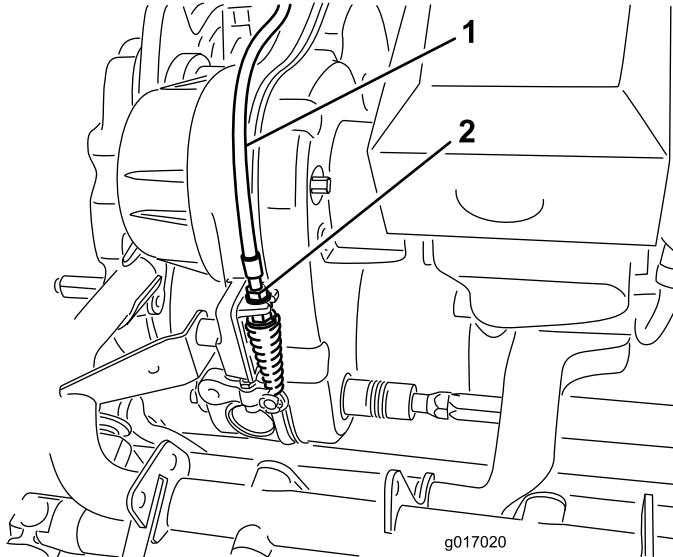

Figure 47
2. At the transmission bulkhead, adjust the reel control cable (Figure 47), to attain a spring length of 70.6 to 72.4 mm (2.78 to 2.85 inches).